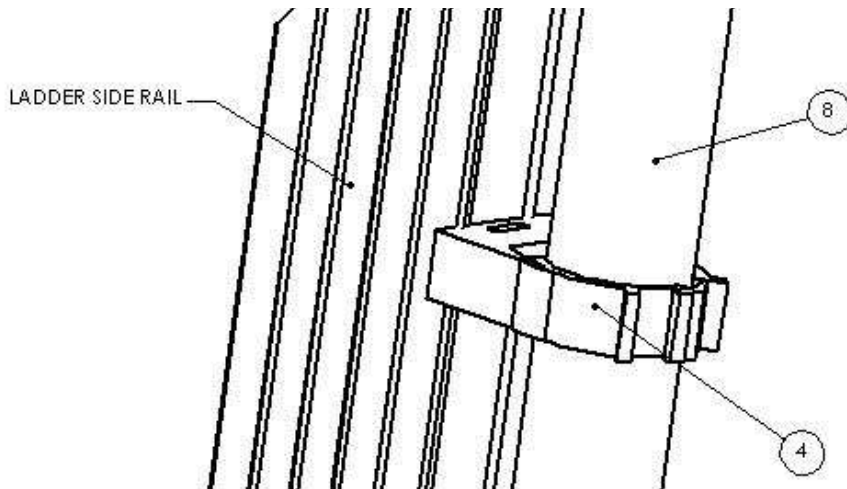

**Figure 13a**
**15)** Use a drill with a Phillips bit to fasten the (#4) Plastic Pipe Clamp to the ladder as shown below in Figure 13a. The hose clamp should be attached with the clamp aligned with the bottom of the step, See Figure 13b. Place (#6) Vinyl Cap over visible portion of screw. Repeat this step for each tread on ladder.